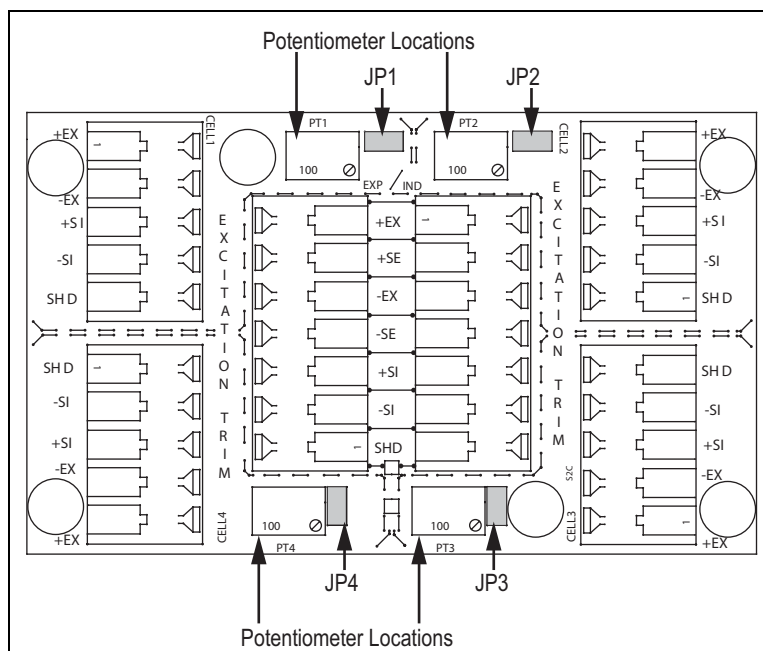

Figure 2-10. Potentiometer Location
- Make sure jumpers are in place to enable trimming of the cells corresponding to each load cell. See Figure 2-10 for the location of jumpers JP1, JP2, JP3 and JP4.
- Set all potentiometers fully clockwise to give maximum signal output from each cell. See Figure 2-10 for location of potentiometers.